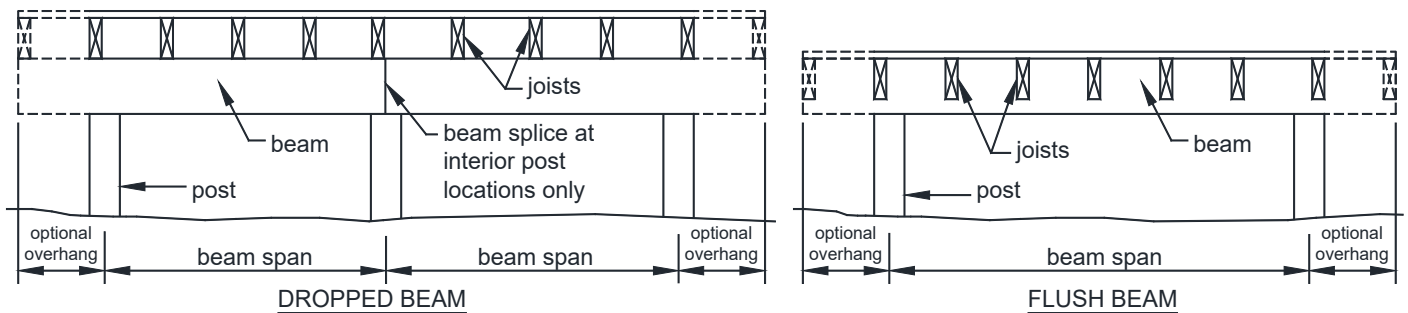

FIGURE 12: BEAM TYPES
- Beam span length, as shown in FIGURE 12, is measured between the centerlines of two adjacent posts and does not include the beam overhangs.